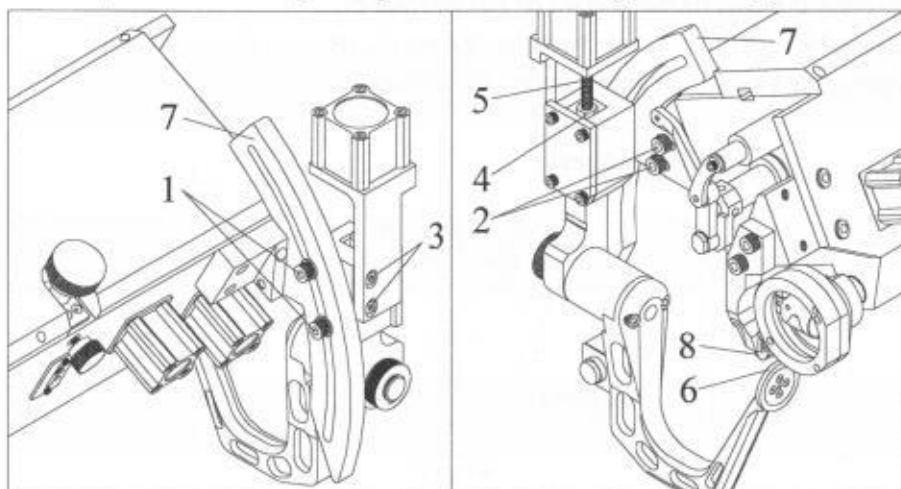

Fig.9
4.4 Support arm position adjustment (Fig.9)
To adjust the height of the support arm, proceed as follows: (Fig.9)
To adjust the angle of the support arm, proceed as follows: **(Fig.9)**